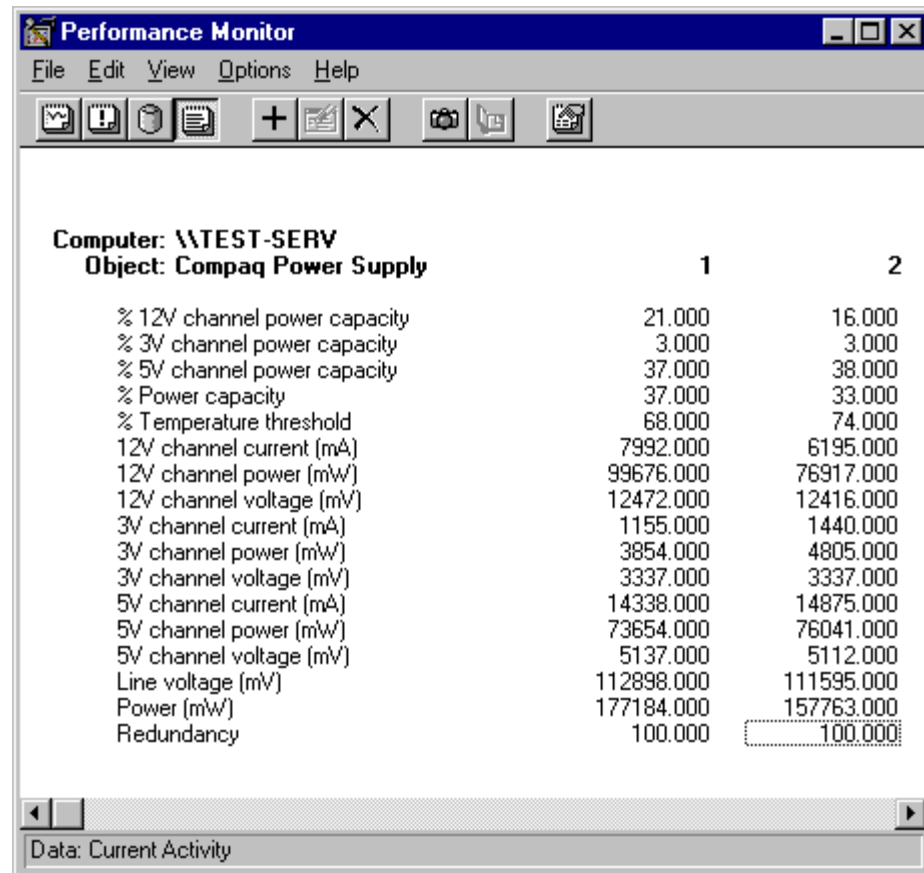

Figure 3: Power Supply Counters Report
To make the power wattage per channel data provided in Table 4 more practical for your configuration, you can substitute the output voltage values in Table 4 with the values obtained from the channel voltage performance counter in PerfMon (see Figure 3, page 12). Multiply the voltage by the full load current to get approximate power available per channel for your system when fully loaded. For example:
The new table values using performance counter data from Figure 3, page 12 are shown in Table 5.
Figure 3 will be used for the purpose of interpreting the data. Changes made to the initial load are additional hard disk usage, extensive floppy drive usage, heavy network access from 50 clients applied and an additional power supply has been inserted.
*Example 1: Calculations to predict power consumption on the 5V channel, values used are from Figure 3.*